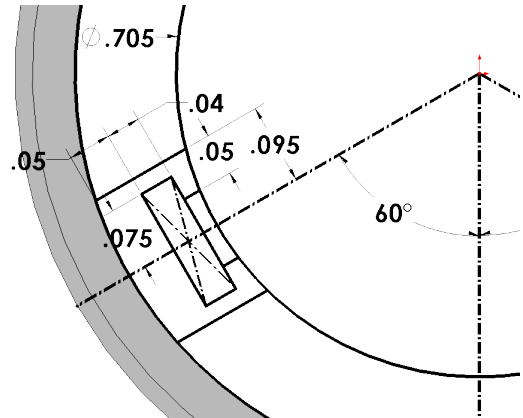

Fig. 24
Step 26. Click **Mirror Entities**  on the Sketch toolbar, **Fig. 24**.